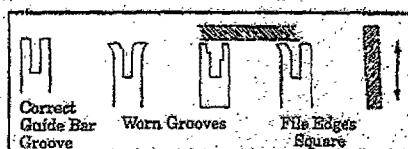

Figure 36
- d. Remove burrs by filing the side edges of the guide bar grooves square with a flat file. Figure 36.
- e. Restore square edges to an uneven rail top by filing with a flat file. Figure 36.